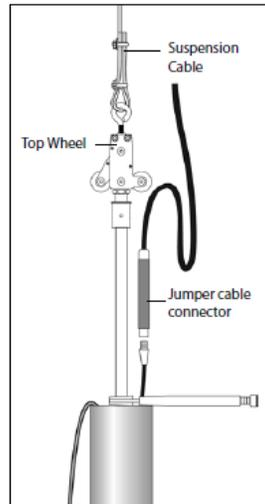

Figure 11
1. Connect the data cable to top sensor. Cable runs from top sensor to data logger (see Figure 11).